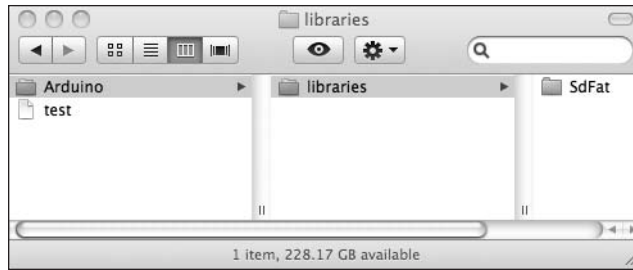

Figure 8-18: Completed library installation
3. Copy the *SdFat* folder from the window shown in Figure 8-17 to your *Arduino/libraries* folder, as shown in Figure 8-18.